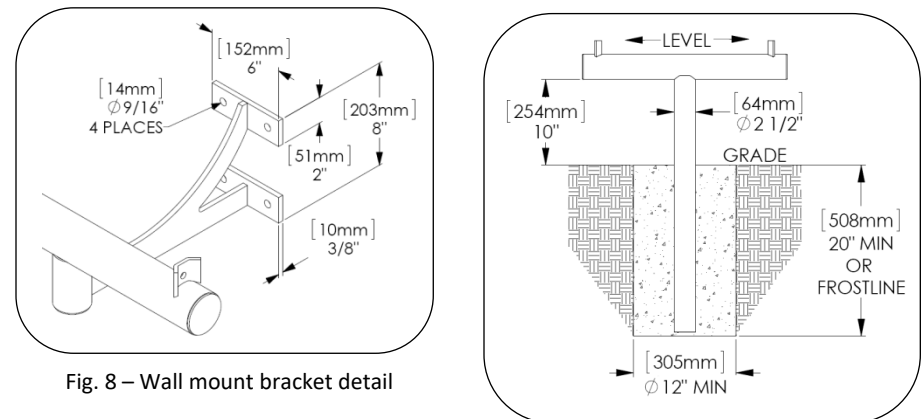

Fig. 9 – Embedded
4. Excavate area for each vertical support as shown in Fig. 9.